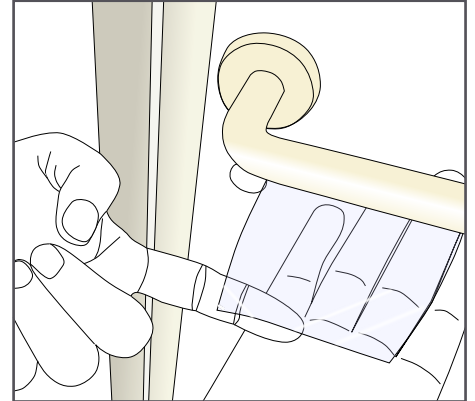

Figure 16
- › Position the film starting on the underside of the handle. Wearing gloves, apply the film by hand on the rear side of the handle.(FIG. 16)